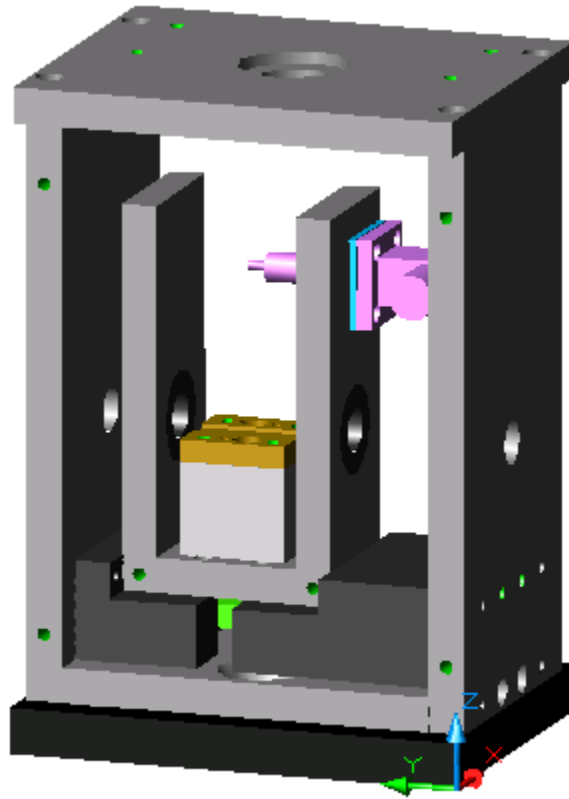

Figure 29. Upper temperature shield bolted to front and rear temperature shields.
**STEP 9:** Get the upper temperature shield (drawing #18) and bolt it to the tops of the front rear temperature shields with four 3/8" screws (see figure 29). The purpose of this is to strengthen the assembly for the following step.